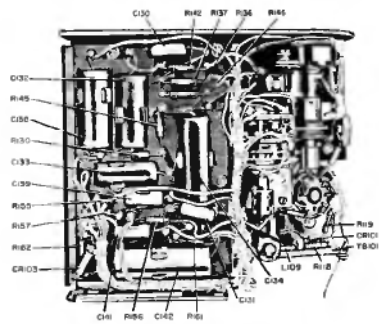

Figure 7-10. Bridge Assembly Components
3. RF OSCILLATOR a. INOPERATIVE ON ALL BANDS	(1) Check voltages on RF oscillator tube (V101). See table 7-5. <p style="text-align: center;">Note</p> Operation of SET RF OUTPUT control (E101) will vary plate voltage. Cathode voltage will be obtained only on bands covering 10 to 1500 kilocycles. (2) Make resistance measurements on V101 socket. Refer to table 7-6. (3) Test V101.
b. INOPERATIVE ON 1 OR MORE BANDS	(1) Check continuity and resistance of components of transformer assembly concerned. (2) Check operation of contacts between turret plate and oscillator assembly contact plate. (3) Replace RF oscillator tube (V101). May be inoperative at certain frequencies.
c. ERRATIC OPERATION	(1) Check contacts between turret and oscillator contact plate. (2) Check tube (V101) and substitute a new tube if necessary. (3) Check tuning capacitor (C101) and (C102) for dirty contacts, bent plates etc. (4) Check oscillator transformer assembly of band concerned for poor connections.
4. RF-METERING CIRCUIT	(1) Check diode CR101. (2) Check continuity of circuit.
5. AUDIO OSCILLATOR a. INOPERATIVE ON BOTH 400 CYCLE AND 1000 CYCLE POSITIONS	<p style="text-align: center;">Note</p> If both audio oscillator ranges are inoperative the probability is that a tube (either V104 or V105) is defective on some component common to both frequencies. (1) Check tubes (V104) and (V105). (2) Check setting of the DEGEN control. Vibration may have changed its setting. Clockwise rotation of this control may start audio oscillator.
b. REGENERATION CONTROL ADJUSTMENT	<p style="text-align: center;">Note</p> The position of the DEGEN control (R143) is a critical adjustment. (1) Turn % MOD control (E104) fully clockwise. (2) Turn DEGEN control (R143), (see figure 7-10), until audio oscillations start. Do not advance beyond this point as distortion of the audio signal will result.
c. INOPERATIVE ON EITHER 400 OR 1000 CYCLE POSITION	(1) Check bridge circuit resistances R136, R137, R140, and R141. <p style="text-align: center;">Note</p> The bridge resistors are of 1 percent tolerance and should be checked on a resistance bridge. An ohmmeter measure is not suitable, as a change of 5 percent in value can cause defective operation.
6. MODULATOR STAGE NO MODULATION OF RF CARRIER, AUDIO OSCILLATOR OK	(1) Check voltages at modulator tube socket (V106). Refer to table 7-5. (2) Test tube (V106). (3) Check setting of MOD METER ADJ (R158). See section 7, paragraph 19. (4) Test RF modulated amplifier cathode capacitor (C114). When C114 is open virtually no modulation of the carrier will take place.